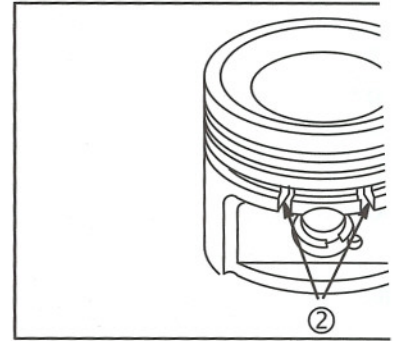

Fig. 2
NOTE: All pistons have drilled oil drain holes in oil control ring groove except for Model Series 97700, 99700, 110400, 110600, 111400, 111600, 113400, 120400, 120600, 121400, 121600, 122600, 123400, 123600, 204400, 205400, 280000, 28S700, 310000, 311700, which have oil control slots (2) in ring lands, Fig. 2.